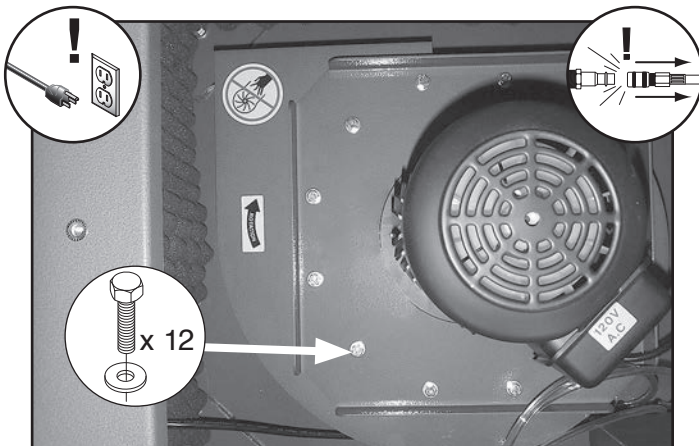

Figure 43. Location of motor mount bolts.
3. Remove (12) hex bolts and flat washers that secure motor (see **Figure 43**).